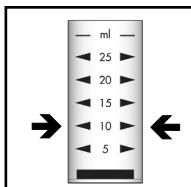

Figure 1
1. Fill the sample cup to the 10 mL mark with the sample to be tested (fig 1).